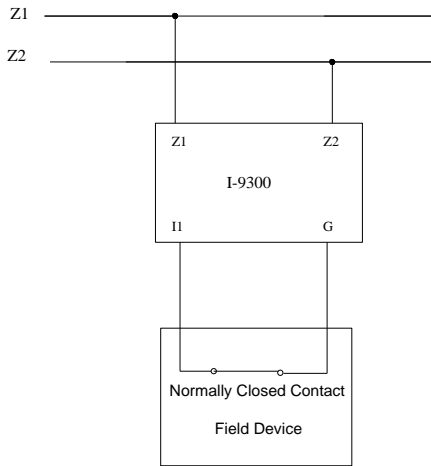

Fig. 5
✧ Fig. 5 shows connecting the module with field device with volt-free normally closed contact. Working mode is normally closed (7).